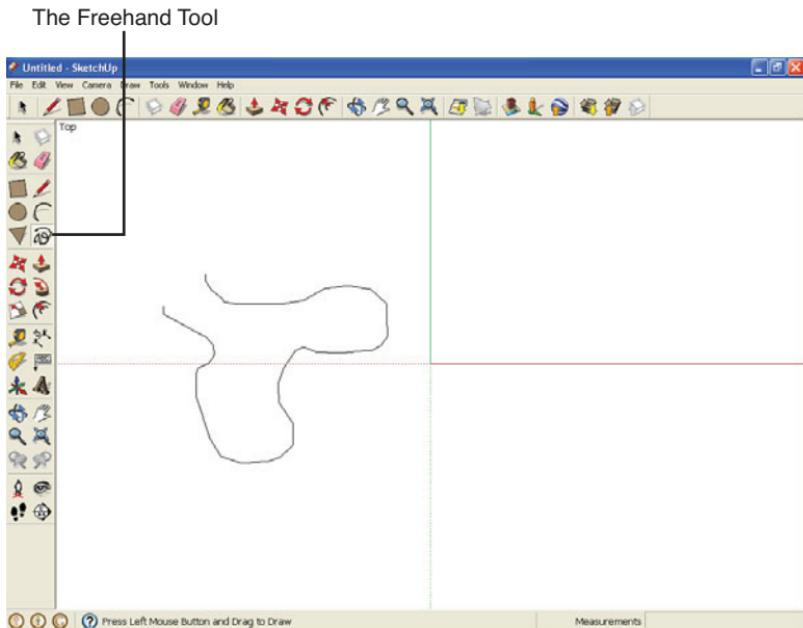

FIGURE 4.7 Drawing freehand with the Freehand tool.
3. Click the **Freehand tool** in the large toolbar (as shown in Figure 4.7).
You can see an example in Figure 4.7.
In addition to freehand figures of the kind you see in Figure 4.7, you can also draw complete surfaces in SketchUp. After you complete a surface, SketchUp will color it in automatically.